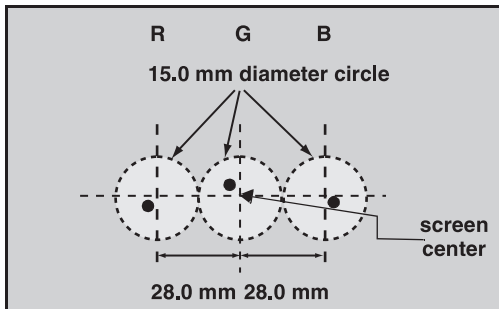

Figure 29. Centering magnet
14. If the center of the monoscope pattern is not inside the 15.0mm circle, shown in Figure 29, adjust the centering magnets. Repeat the alignment magnet adjustments and four pole magnet adjustments (step 1. ~ step 12.).